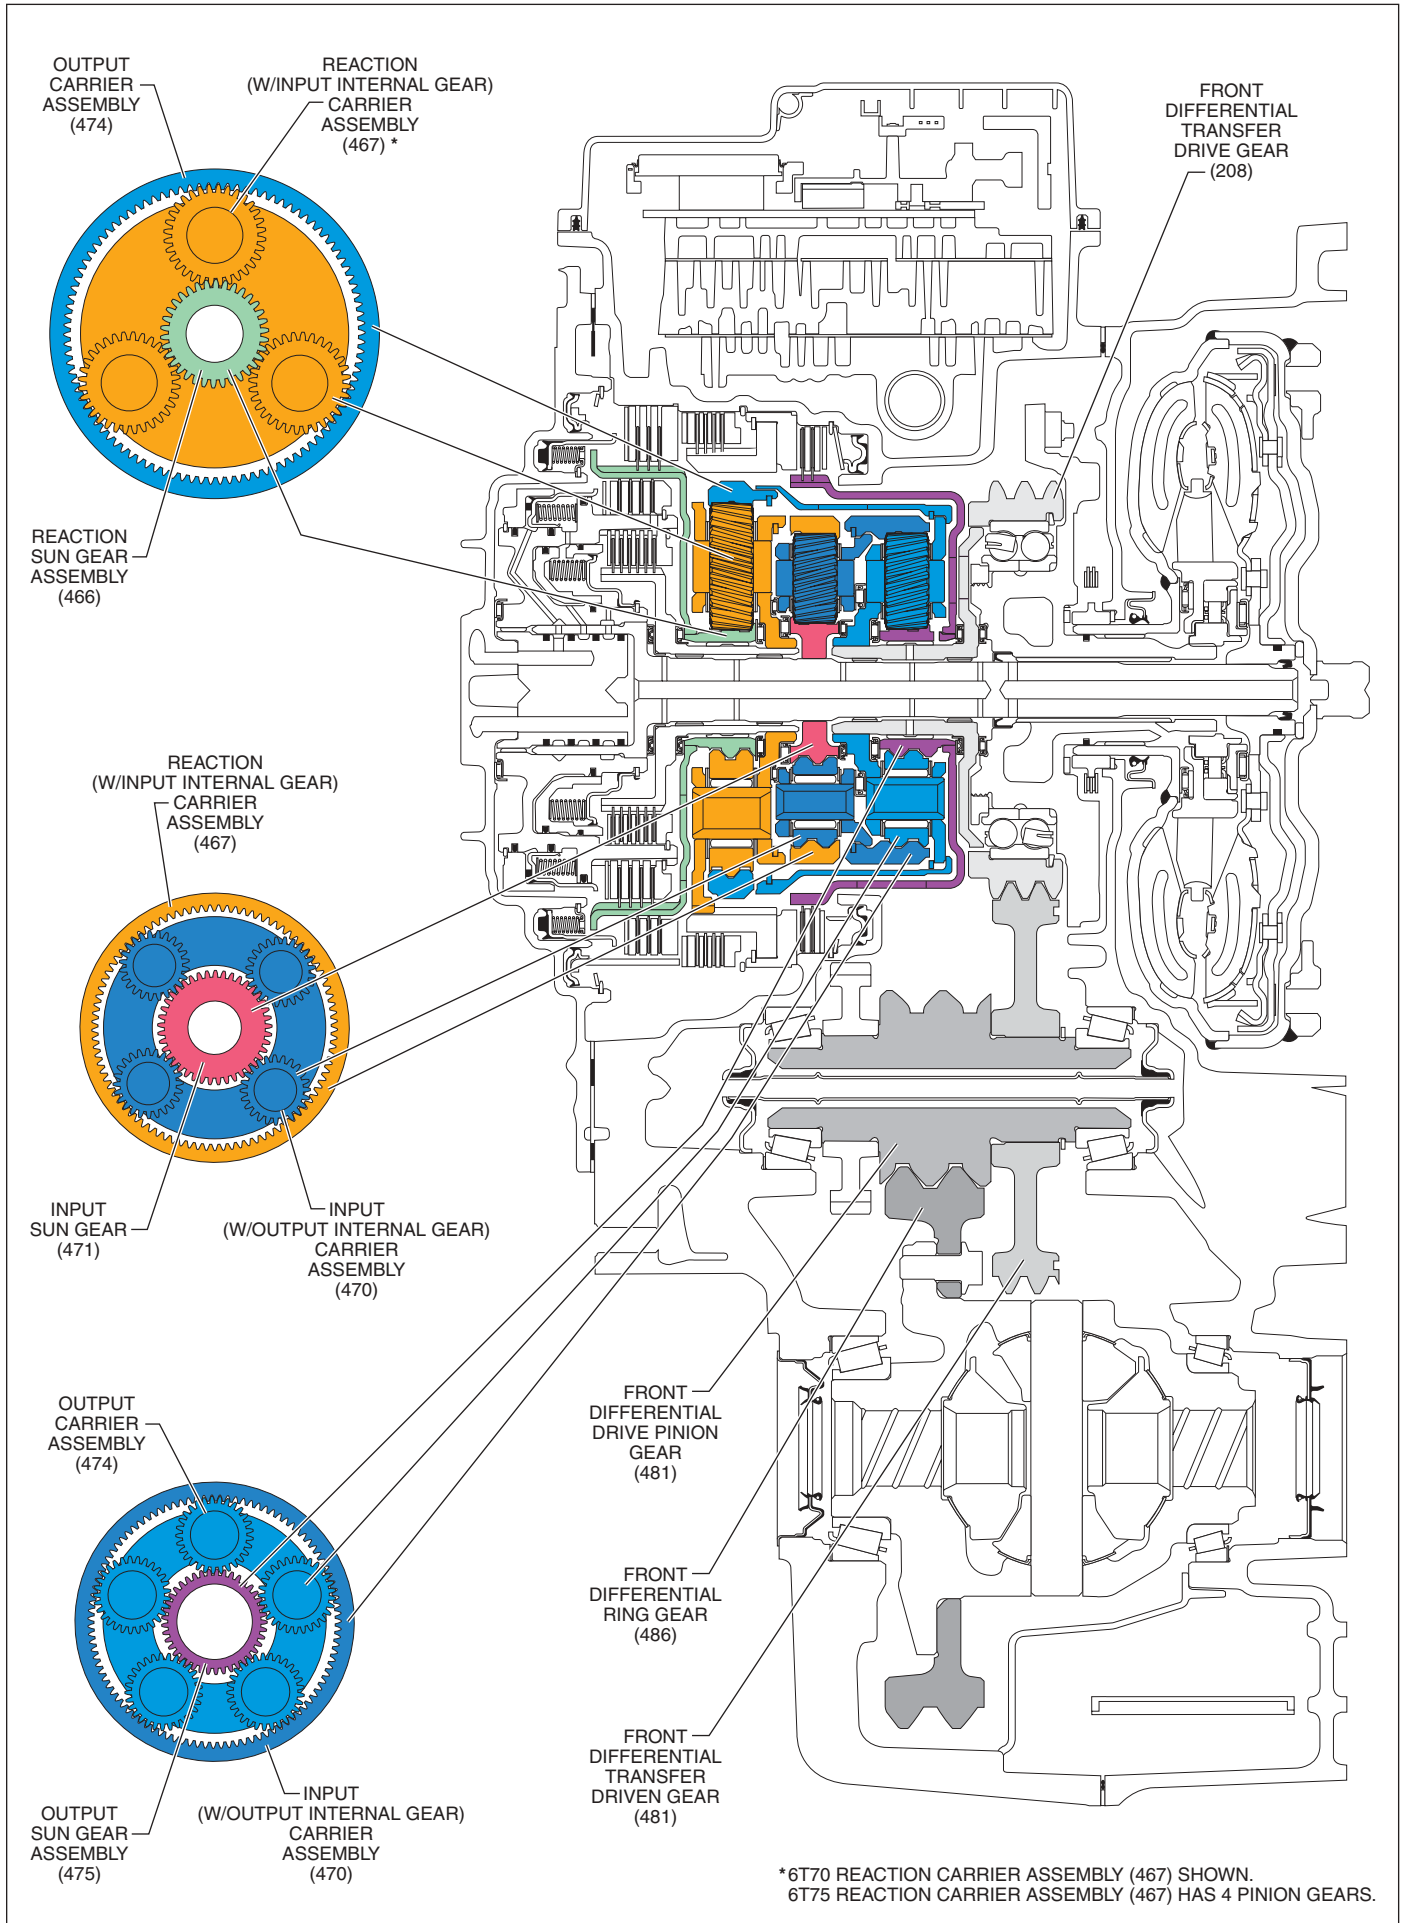

Figure 23
The Hydra-matic 6T70/75 transmission uses three planetary gear sets, the input carrier assembly (470), the reaction carrier assembly (467), and the output carrier assembly (474). Figures 23, 24 and 25 show these gear sets and their respective components. These figures also graphically explain how the planetary gear sets are used to achieve each of the transmission's six forward gear ratios and Reverse.